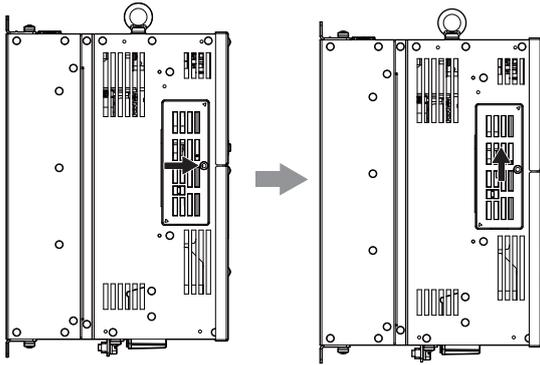

Figure 14 Sliding Connector Cover
- Slide the connector cover as shown in the Figure 14.